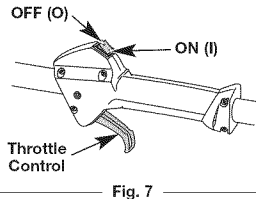

Fig. 7
NOTE: There is no need to turn the unit on. The On/Off Stop Control is in the ON (I) position at all times (Fig. 7).
2. Press and hold the On/Off Stop Control switch in the OFF (O) position until the unit comes to a complete stop (Fig. 7).